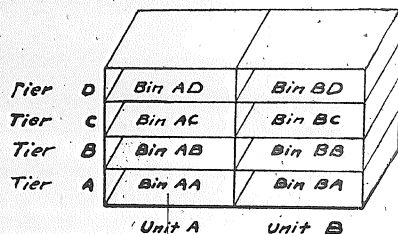

FIGURE 2
3.—*Tier*: A horizontal section of a column, generally of bins, piled directly above unit areas. Each bin would be located in a certain tier and would be identified in addition to the unit over which it was placed. (see Figure 2).